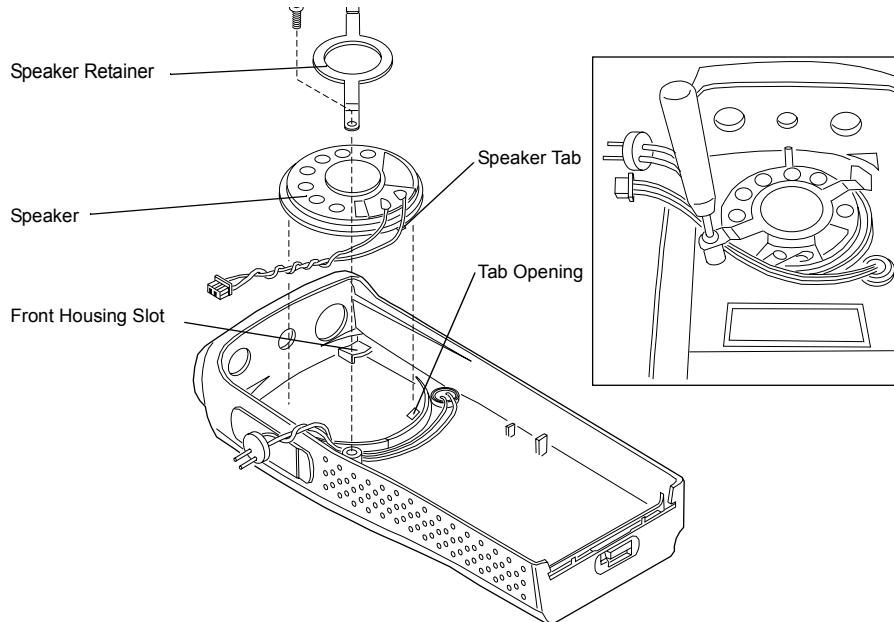

Figure 8-11. Speaker Re-assembly
4. Locate the speaker tab and align it with the tab opening in the front housing (Figure 8-11).
6. Insert one end of the speaker retainer into the slot in the front housing (See Figure 8-11).